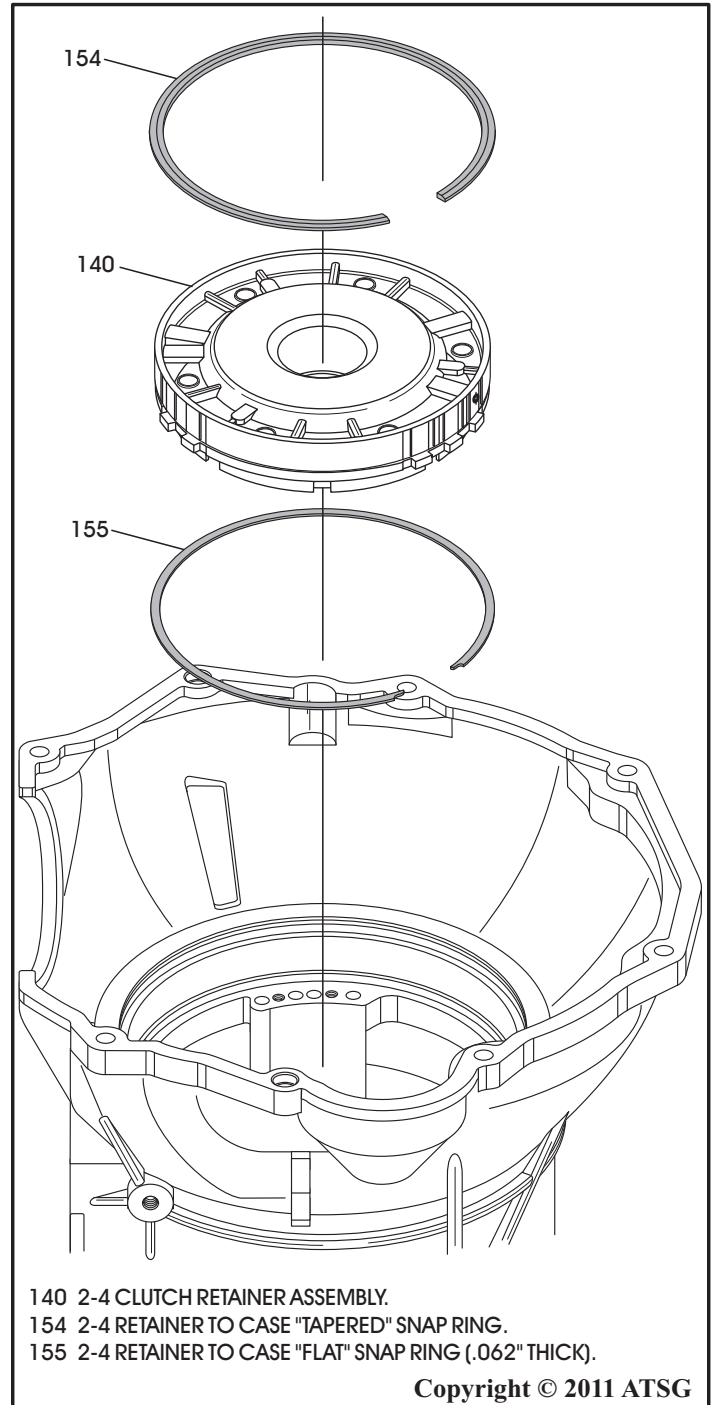

Figure 138
3. Install the *flat* 2-4 retainer snap ring into case, as shown in Figure 138.
4. Install the 2-4 clutch retainer into case, as shown in Figure 138.
5. Install 2-4 clutch retainer *tapered* snap ring with taper facing up, as shown in Figure 138.